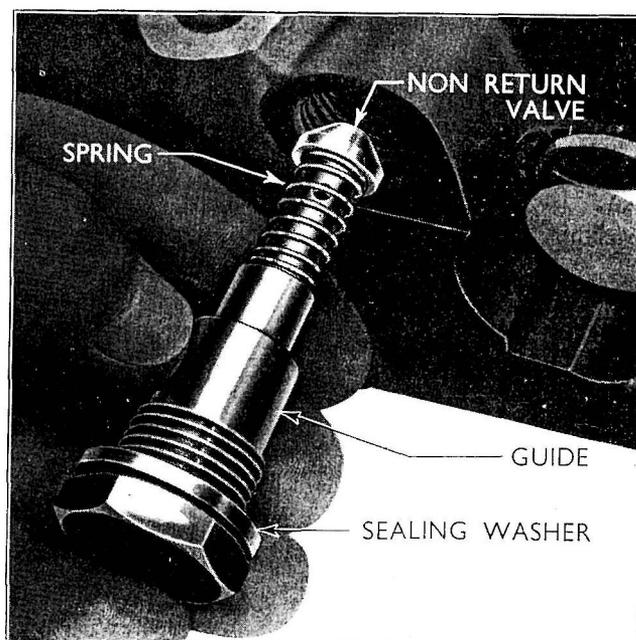

Fig. 187
- 2 Remove the washer, non-return valve spring, and non-return valve (see Fig. 187).
- 4 Remove the non-return valve by unscrewing the hexagonal plug adjacent to the unloading valve seat, and withdraw the plug, special washer, spring and valve (see Figs. 187 and 190).